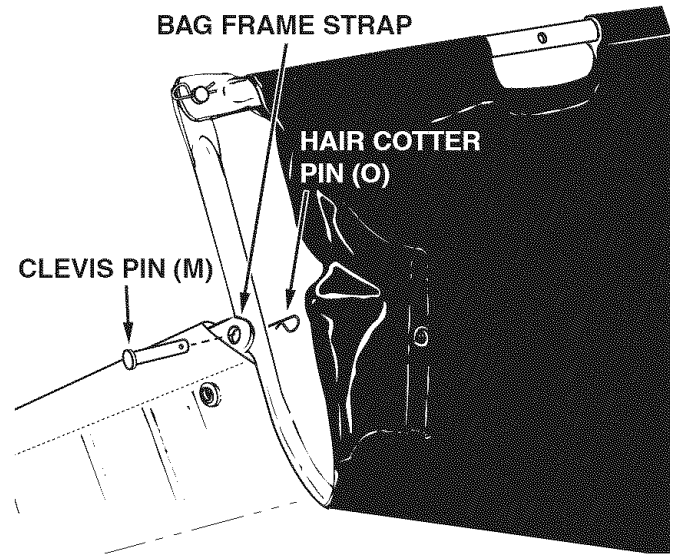

FIGURE 13
- Assemble the bag frame strap to the holes in the lower hopper tubes using two clevis pins (M) and hair cotter pins (O). See figure 13.